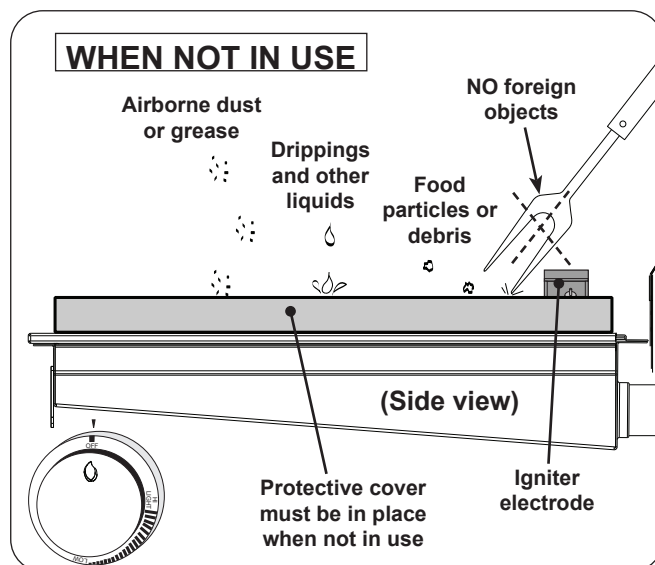

Fig. 27-2 Infrared burner - WHEN NOT IN USE
- When not in use, **always** cover the infrared burner with the stainless-steel cover. This protects the burner from drippings (from other cooking), water, airborne particles, and foreign objects (Fig. 27-2).
- Do not strike or scrape the ceramic portion of the burner as it may chip, crack, or break (Fig. 27-2).